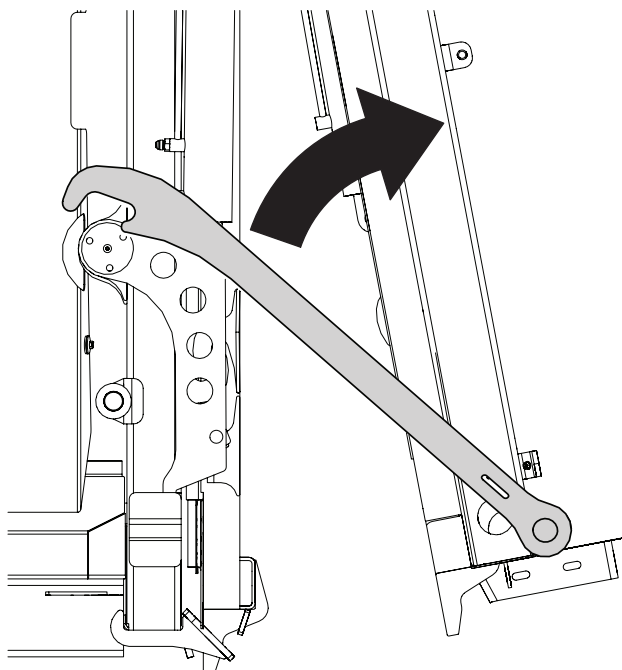

Figure 26
3. Push the prop into the stored position (Figure 26).